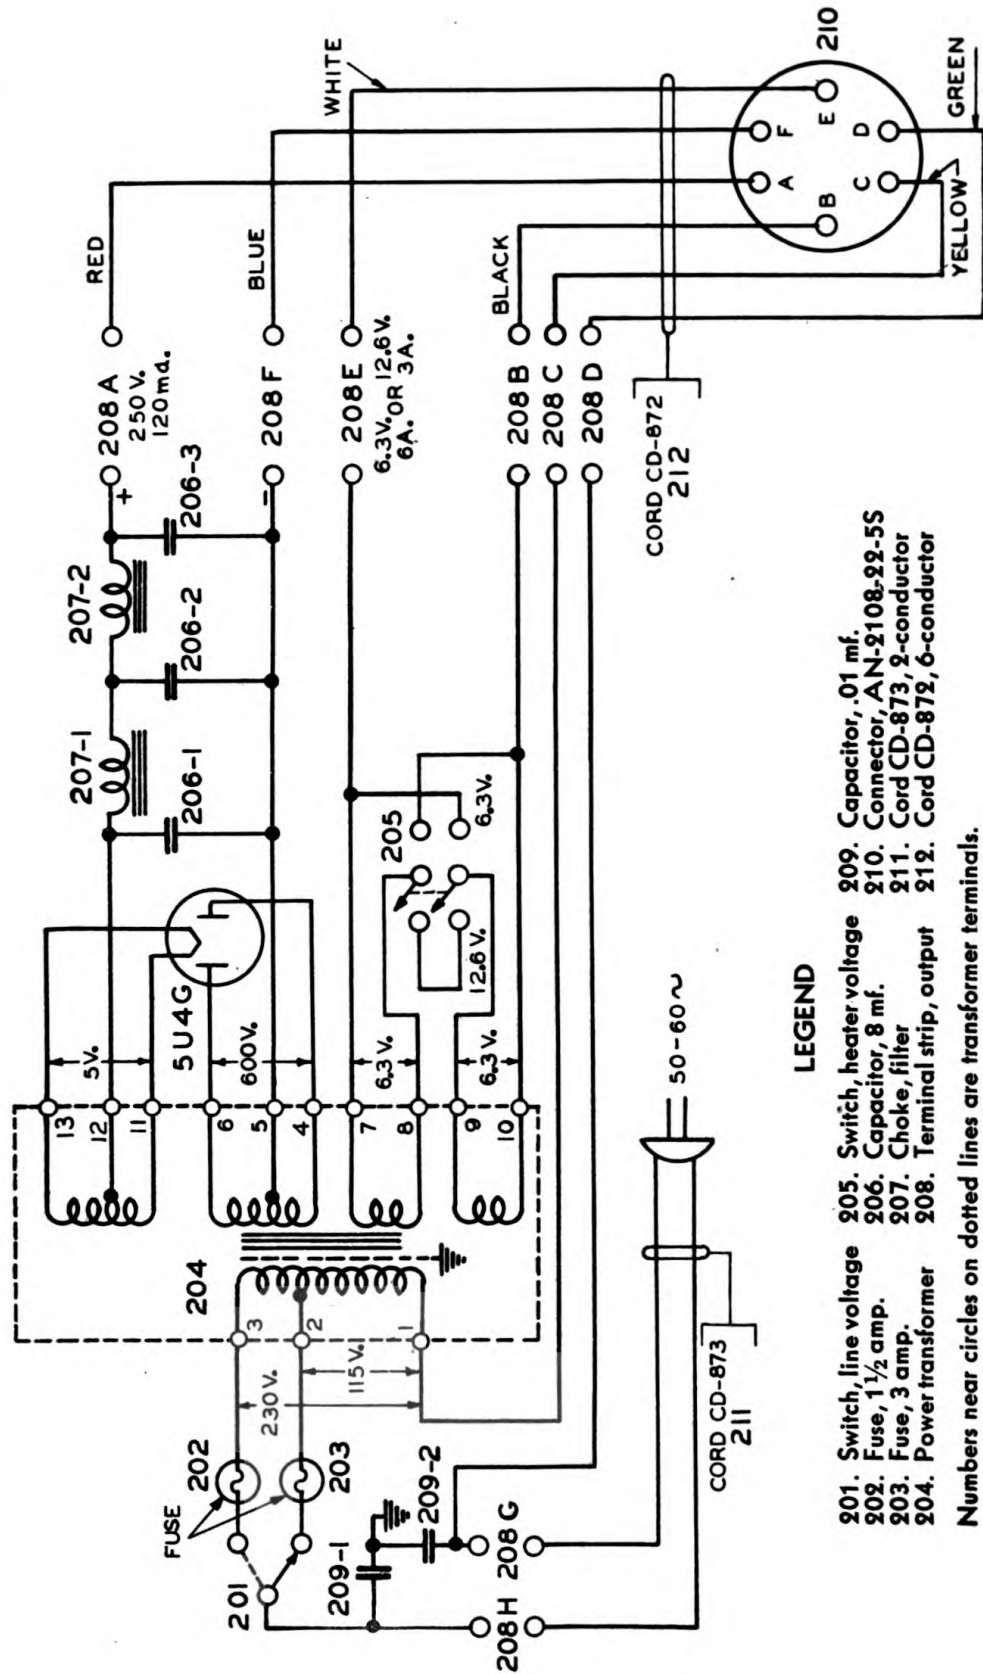

Figure 6. Power Supply Unit RA-61-A, schematic circuit diagram
26. TUNING INDICATOR.—The tuning indicator (V_{11}) is of the electron ray type using a type 1629 tube. The d-c voltage for this tube is supplied by the detector diode through the filter comprising resistor (58-1) and capacitor (16-3A). Resistor (65) with (58-1) in series as a voltage divider and cathode resistor (41-1) give tuning indication over the entire signal range from 10 microvolts to 100,000 microvolts. Resistor (58-2) is the load resistor for the 1629.
27. VOLTAGE REGULATOR.—A regulated voltage of 150 volts is provided for the plate supply of the high frequency and beat frequency oscillators, thereby stabilizing the frequency of these oscillators regardless of line voltage changes. This regulation is provided by resistor (45) and the VR 150-30 tube (V_{12}). At normal 250 volt plate supply voltage the VR 150-30 tube draws about 20 milliamperes; with higher plate supply voltage, the current through this tube increases, and with lower plate supply voltage, the current decreases, thus maintaining the voltage at the low potential end of resistor (45) substantially constant.
28. VOLTAGE SUPPLY.—The voltages derived from Power Supply Unit RA-61-A are applied to the receiver through receptacle (89). This receptacle also connects the POWER ON-OFF switch (76) to the power supply unit. Capacitors (12-10), (12-11), (12-12), and (12-3) are all connected close to the receptacle to prevent any r-f energy which might exist in the power supply unit circuits from entering the receiver. The letter symbols on receptacle (89) correspond to letter symbols on the plug of the power unit to which they connect. The filament circuit designated X and Y on the schematic diagram, is a two wire system throughout the chassis with the X side, distinguished by the black color coded wire in the chassis, grounded near each socket. The dial lights (112-1) and (112-2) are 6-8 volt lamps and are supplied through resistors (87-1) and (87-2) to have a normal operating potential of 6 volts.
29. POWER SUPPLY UNIT RA-61-A. — Power Supply Unit RA-61-A (figure 6) is a single tube full-wave rectifier used to supply d-c voltage. The 60-cycle input voltage is applied to the primary of the transformer (204) by means of Cord CD-873, through switch (201) which